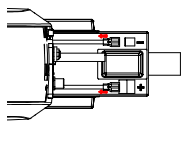

Fig. 3
3. Remove the battery then insert a new battery pack, and push the connectors onto the battery terminals (black to black & red to red)(Fig. 3)